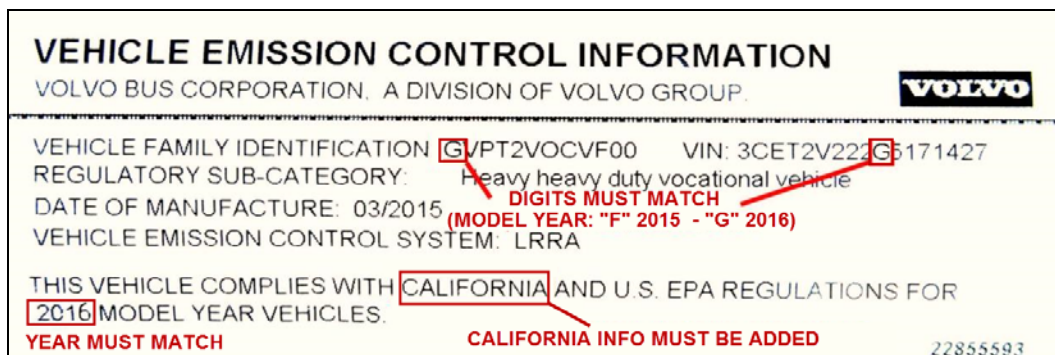

FIG.1 CORRECT INFORMATION ON NEW EPA DECAL (2016 VEHICLE SHOWN)
- Vehicle family Identification number first digit must match vehicle VIN 10th digit (see Fig 1).
- Regulation compliance must include California (see Fig 1).